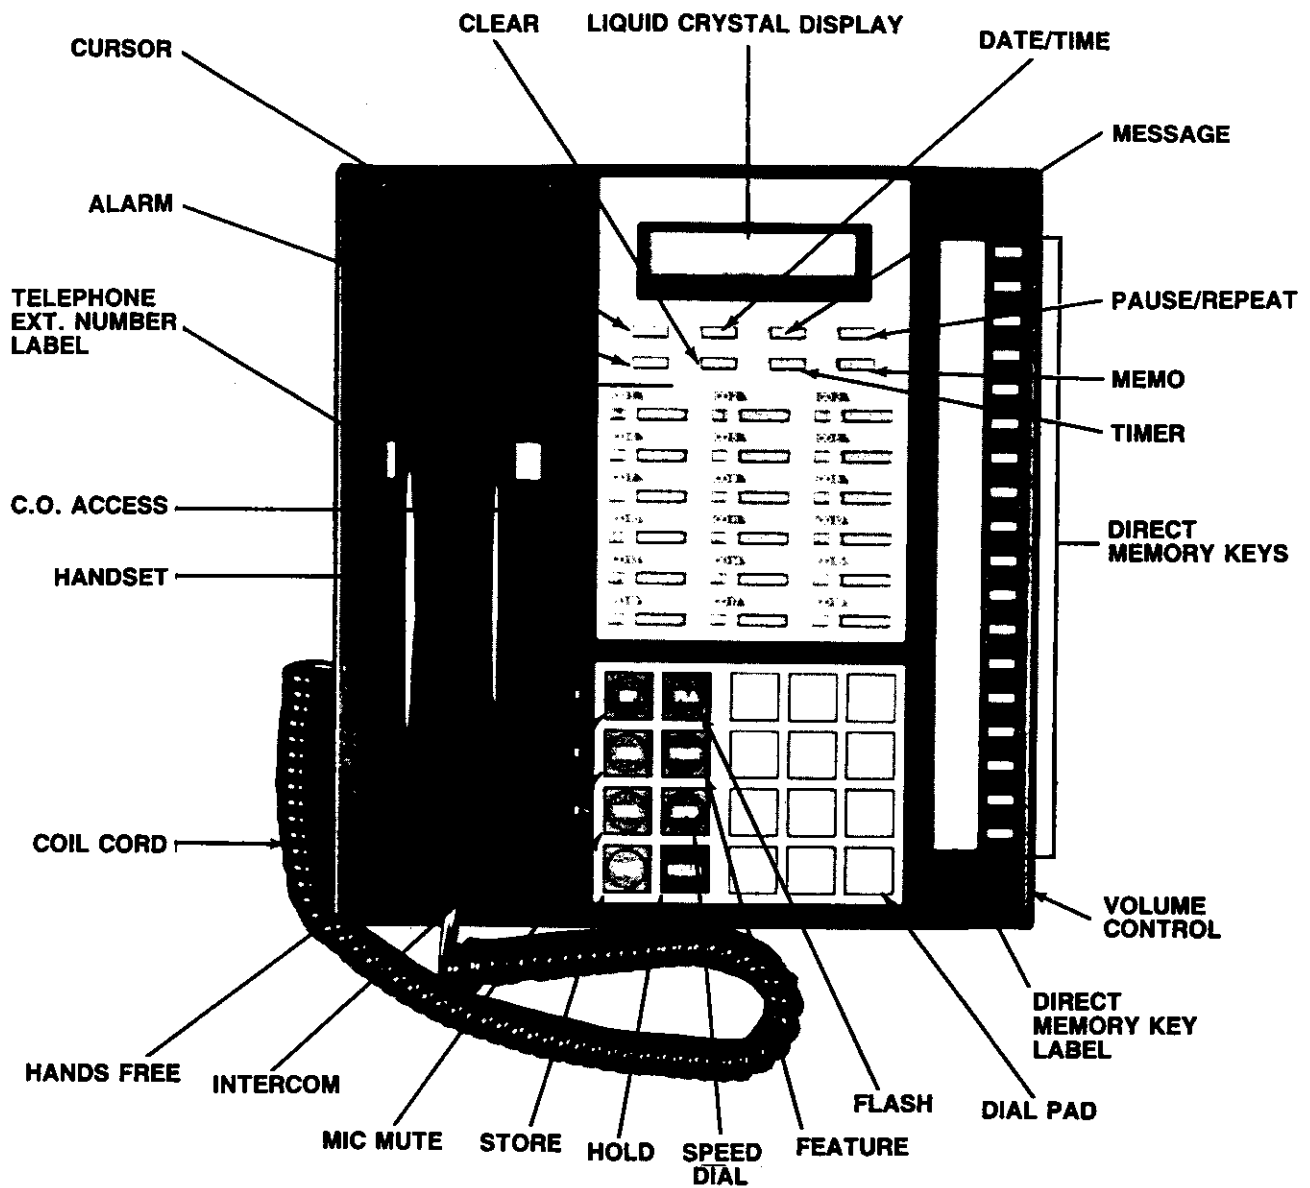

Figure 3-6. Executive Station Electronic Key Telephone.
- Figure 3-6 -- Executive Station Electronic Key Telephone